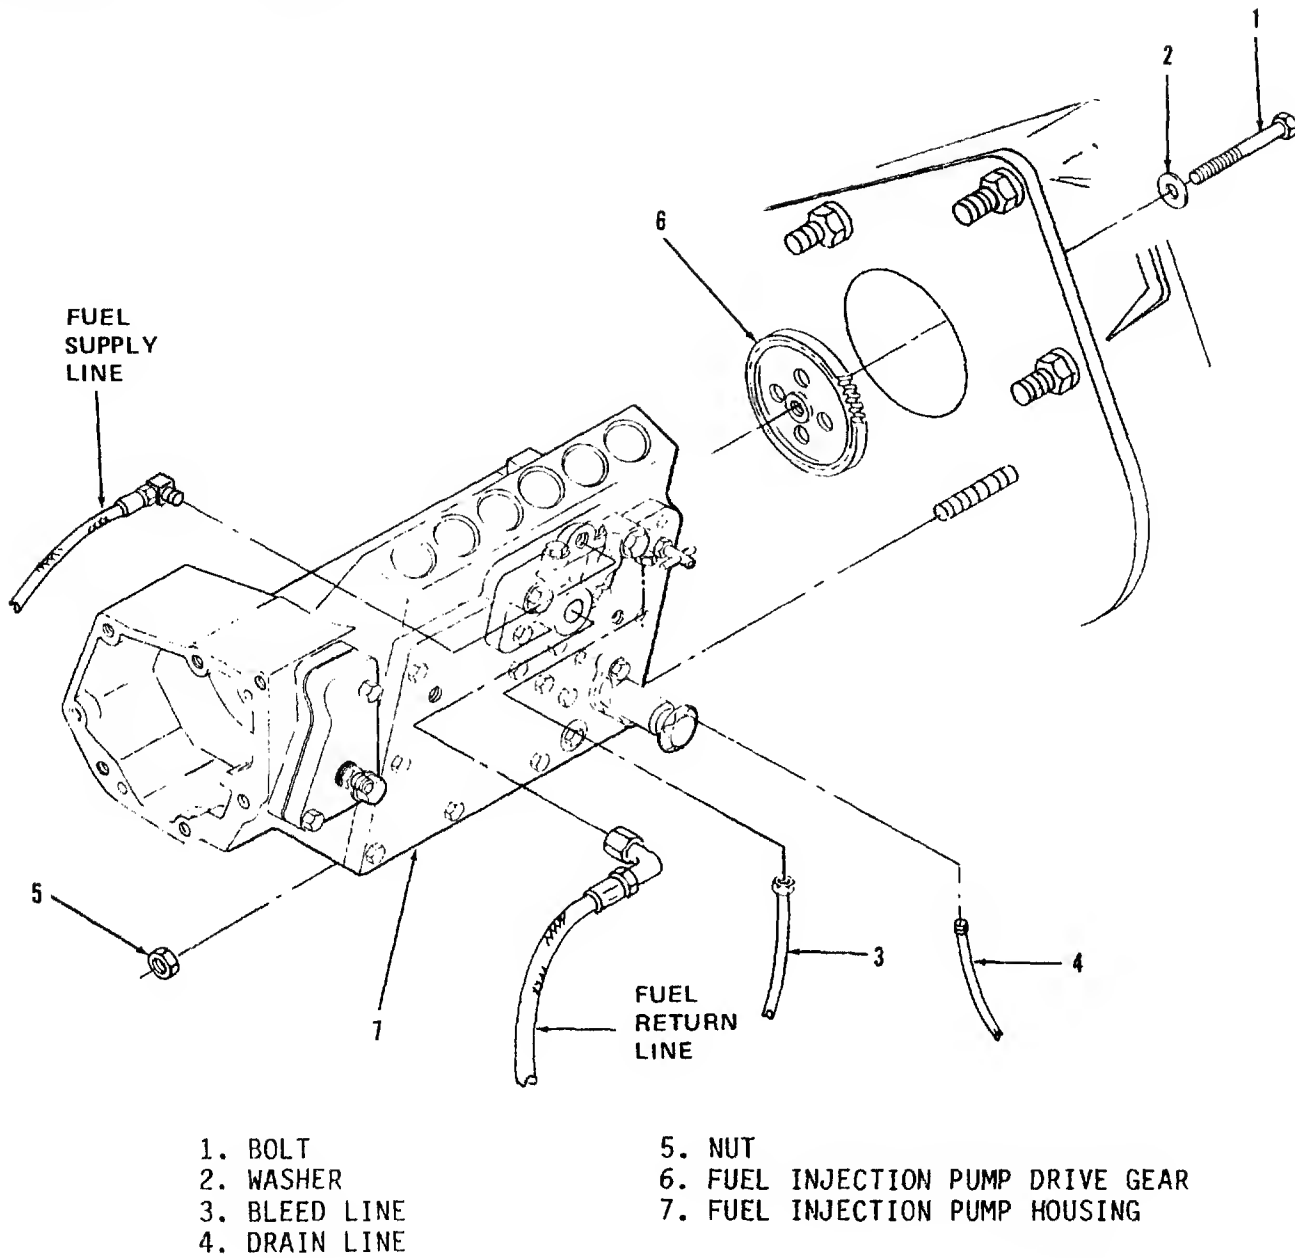

Figure 7-3. Fuel Injection Pump Housing, Removal and Installation
If the drive gear (6, figure 7-3) does not loosen from the camshaft when struck, use a puller to remove drive gear (6).
d. Loosen bolt (1) which secures drive gear (6) to the fuel injection pump camshaft. Strike bolt (1) with a hammer to loosen gear (6) from the camshaft. Remove bolt (1) and washer (2). If necessary, use a suitable puller to loosen drive gear (6).
e. Refer to the Operator and Organizational Maintenance Manual and remove the fuel injection lines, fuel supply line, and fuel return line from the fuel injection pump housing (7).
f. Disconnect bleed line (3) and transfer pump drain line (4).
g. Remove nuts (5) and remove fuel injection pump housing (7) from the engine. Remove fuel injection pump drive gear (6) from housing (7).